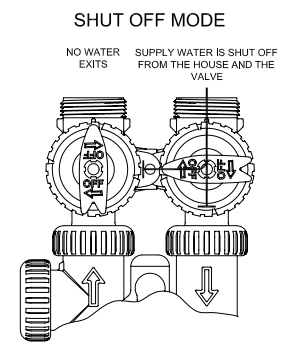

figure 4
**4. Shut Off Position:** The inlet handle points to the center of the bypass valve and the outlet handle points in the direction of flow. The water is shut off to the building plumbing system. The filter will depressurize upon opening a tap in the building. If water is available on the outlet side of the filter it is an indication of water bypassing around the system (i.e. a plumbing connection somewhere in the building bypasses the system). (see figure 4)